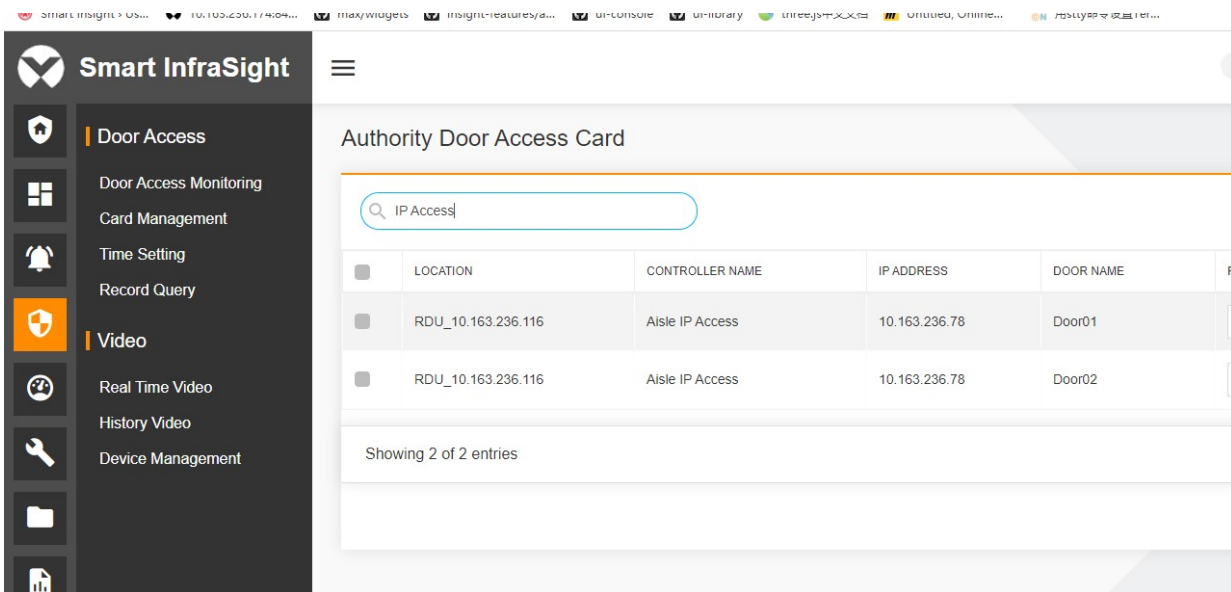

Figure 13-38 Authorization Door Access Card - Search
2. Enter the search content in the search box above the list. The system searches for the door access devices according to the entered content. The search function supports fuzzy search by name and IP address of the access controller. For example, enter "aisle". The search result is as shown in Figure 13-38.